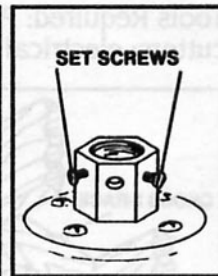

FIG. 6
**Step 2.** Loosen the two set screws in the top coupling of the top housing assembly. (Fig. 6)